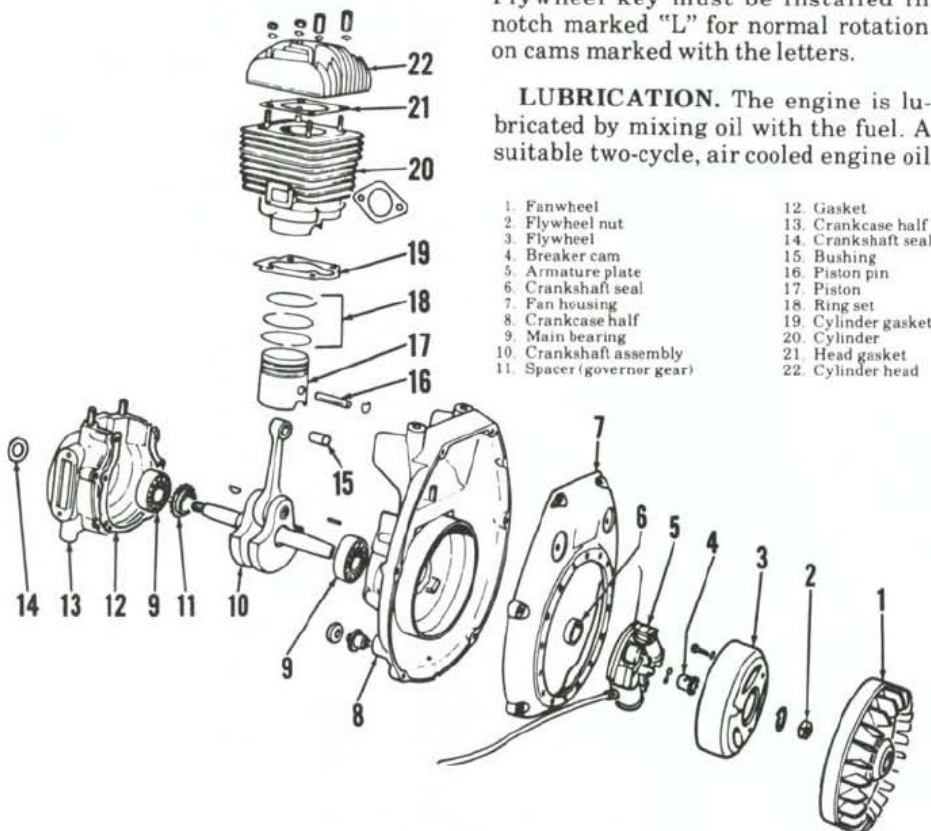

Fig. 11—Exploded view of JLO L252 engine. L152 is similar.
Fig. 12—Exploded view of JLO L297 engine. All engines except L252 and L152 are similar. For parts identification use Fig. 11 except for: 23. Needle roller bearing.
**DISASSEMBLY AND REASSEMBLY.** Refer to Figs. 11 and 12 for exploded views of engines. When service is required, first remove engine as
**CRANKSHAFT & CONNECTING ROD ASSEMBLY.** The crankshaft and connecting rod unit is available only as an assembled unit and disassembly is not recommended. Bearings are a tight press fit on shaft and in crankcase bores at room temperature. Heat bearings in oil to a temperature of 160°-200° F. and support crankshaft between counterweights before installing bearings on shaft. On some engines, governor drive gear (11—Fig. 11) is used as a spacer for pto side bearing.